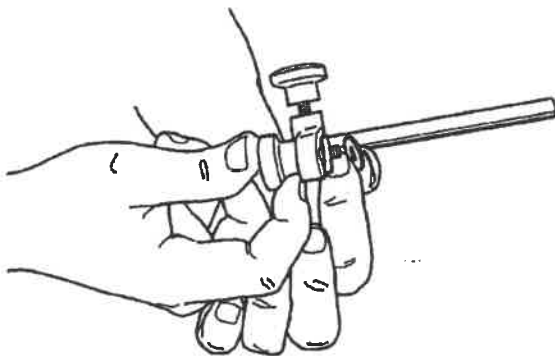

Fig. A-33
4. Place the nylon washer (5) and then the remaining flat washer (4) on the knob shaft, as in Fig. A-33.